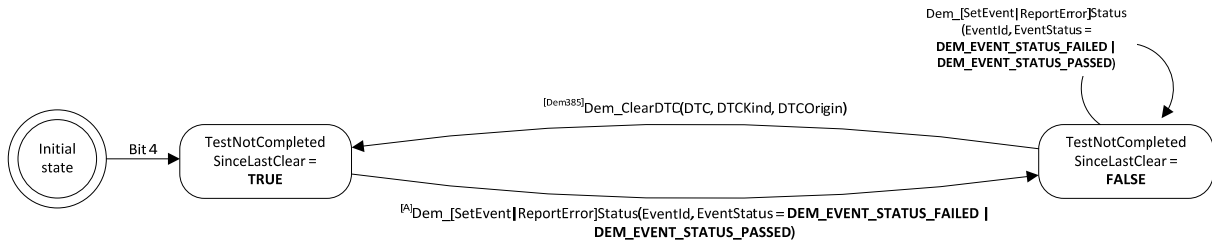

**Figure 16 DTC status bit 3 ConfirmedDTC logic**
**[Dem391]** «The Dem module shall implement the status bit transition for UDS DTC status bit 3 (ConfirmedDTC) according to Figure 16.»()